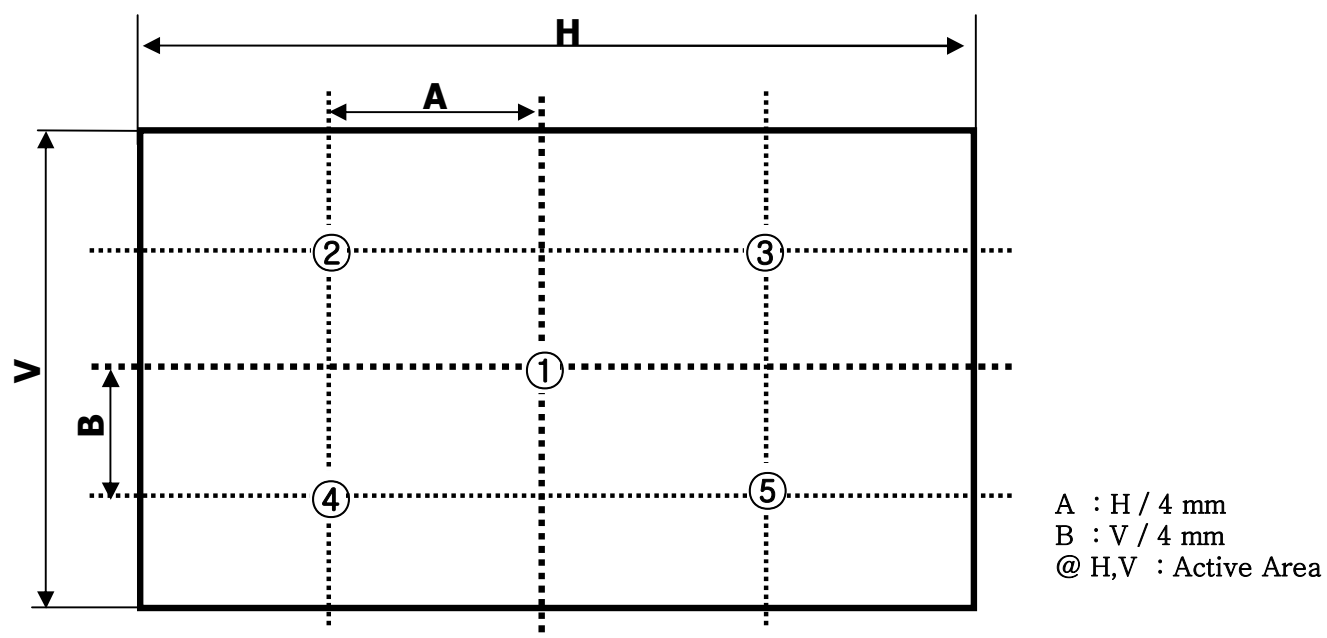

FIG. 2 Measure Point for Luminance
n = the Position number(1, 2, 3, 4, 5). For more information, see FIG 2.
2. Surface luminance are determined after the unit has been 'ON' and 1Hour after lighting the backlight in a dark environment at $25 \pm 2^\circ\text{C}$. Surface luminance is the luminance value at center 1-point across the LCD surface 50cm from the surface with all pixels displaying white. For more information see the FIG. 2.
For more information, see the FIG. 2.